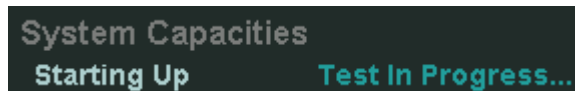

Figure 10-18 Test in Progress Message
6. Self-Test will indicate which test is being conducted with the “Test in Progress...” description. Figure 10-18 shows an example of the Starting Up test.